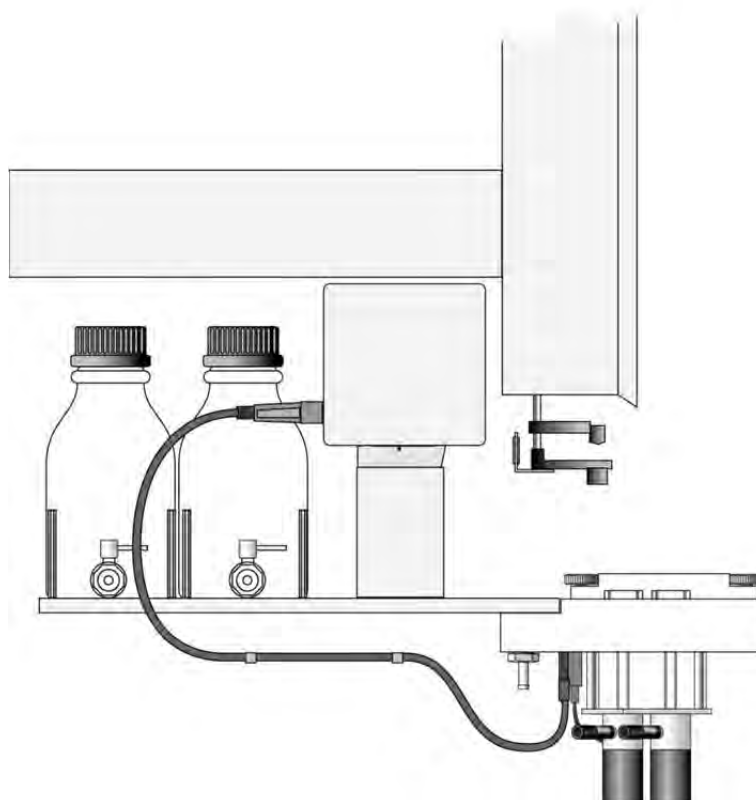
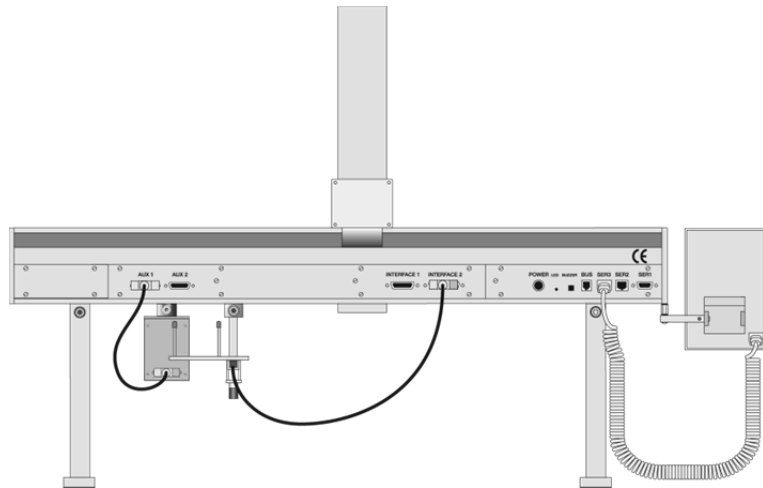

Figure 18. Electrical Connection, Fast Wash Station
Figure 21. Electrical Connections for HTS PAL System
8. Connect the control cable between PAL connector "INTERFACE 2" and the four-pronged connector located on the Fast Wash Station assembly. See below Figure 18 and for more details Figures 21/22.
Before defining the HTS PAL Object positions, make sure the LC Injection Valve, Fast Wash Station and Keypad Terminal are correctly connected to the HTS PAL X-axis rear side.(See Figs. 21 or 22.)